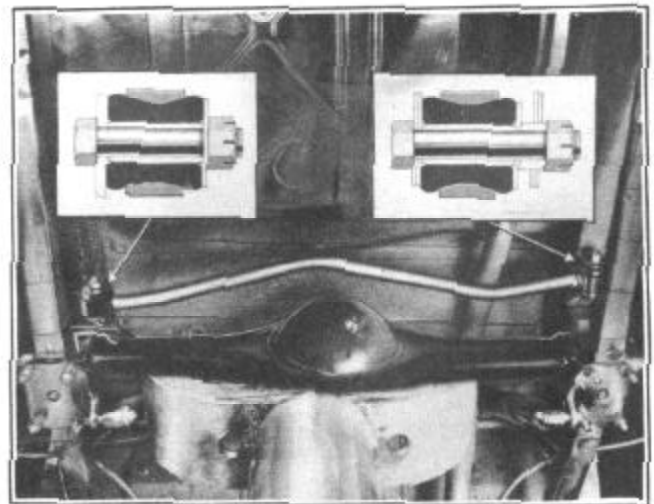

FIGURE 7
1. Remove the palnut and hex nut, Figure 7, the rubber cushion, and washer.